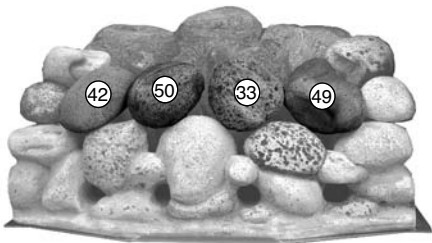

Fig. 36
4. Lay the first row of four loose pebbles on top of the front coal. Ensure the back of the pebbles are resting on the coal bed and there are even gaps all round (Fig. 36).